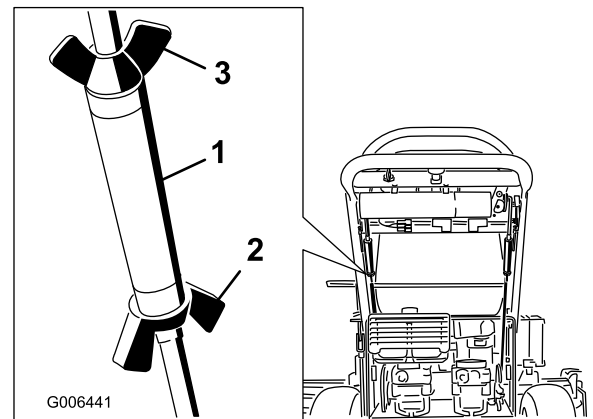

Figure 47
2. Loosen the wing nuts on the right control rod and rotate the turnbuckle in or out to ensure the right side control lever is centered in the neutral lock position. Secure the turnbuckle in position with the wing nuts (Figure 47).
3. Loosen the wing nuts on the left control rod and rotate the turnbuckle in or out to change the tracking. Secure the turnbuckle in position with the wing nuts (Figure 47).